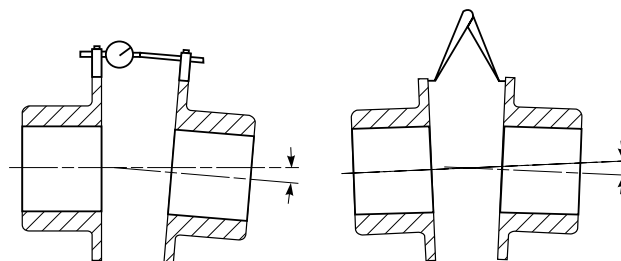

Figure 2
- D. **Angular Alignment** — Rigidly mount a dial indicator on one hub or shaft, reading the face of the other hub flange, as shown in Figure 2. Rotate both shafts together making sure the shaft axial spacing remains constant. Adjust the equipment by shimming and/or moving so that the indicator reading is within the values shown in Chart "A".